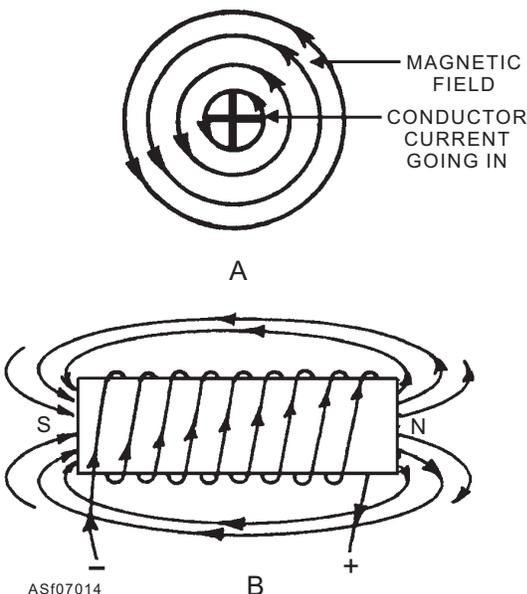

Figure 7-14.—Magnetic field of a current-carrying conductor.
**INDUCTANCE.**—Inductance is the property of an electric circuit that opposes any **CHANGE IN THE CURRENT** through a circuit. That is, if the current increases, a self-induced voltage opposes this change and delays the increase. If current decreases, a self-induced voltage tends to aid or prolong the current flow and delays the decrease. Inductance is caused by the buildup or collapse of a magnetic field around a conductor (fig. 7-14).